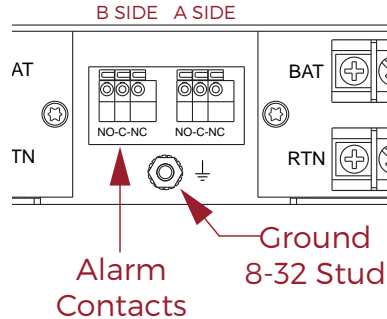

Figure 8. Alarm Contact & Ground Detail
9.5 Form C Relay Contact Outputs. The center of the back panel has connections to the Form C relay contact outputs for connection to external audible or visual alarm circuits. See Figure 8.